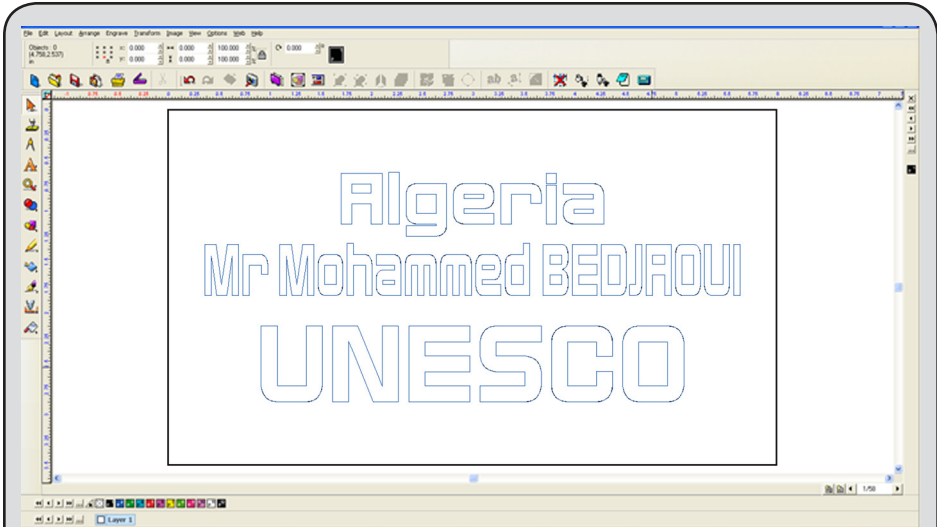

Fig. 45 - After badges have been created, the view will return to the Vision workspace, where text substitution for each badge has occurred.
- When the badges have been completed, the workspace will display the first badge in the series (Fig. 45).